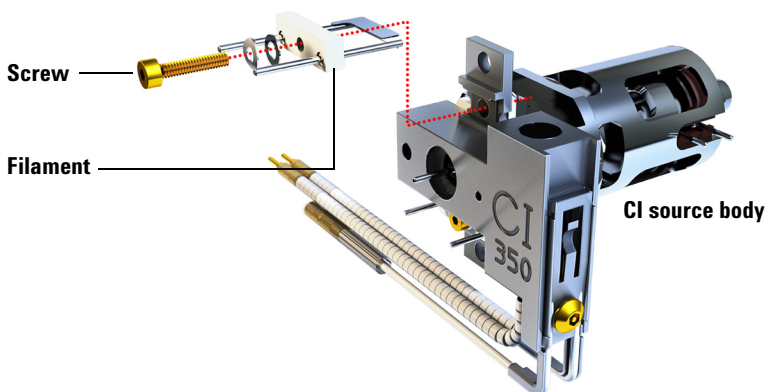

Figure 73 Changing the CI source filament
- 4 Remove the screw holding the filament to the CI source body. (See Figure 73.)
- 5 Slide the filament off the CI source assembly. (See Figure 73.)
- 2 Place the new filament into its position on the ion source body. (See Figure 73 on page 223.)
- 3 Secure the filament to the ion source body with the screw. (See Figure 73 on page 223.)